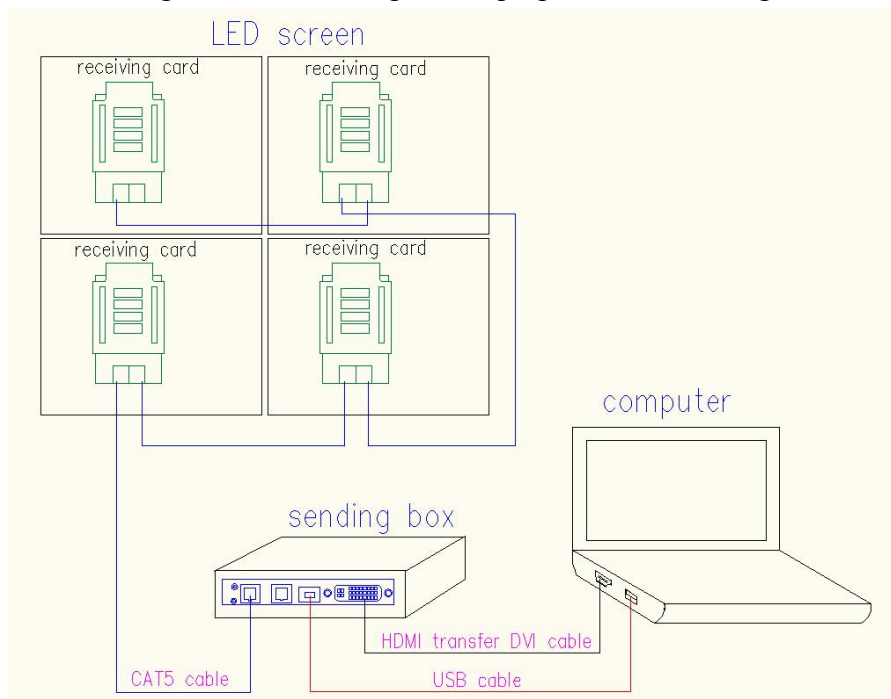

Figure 4.4 Connecting the screen through the laptop
(2) Connecting the screen through the laptop , as shown in figure 4.4: